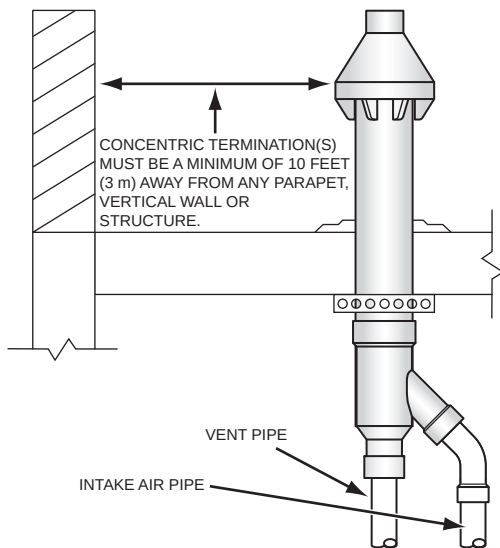

Figure 27. Concentric Termination - Flat Roof Clearance
4. When installing a concentric termination vertically through a flat roof, the termination's vent cap must be a minimum of 10 feet (3 m) away from any parapet, vertical wall or structure as shown in *Figure 27*.